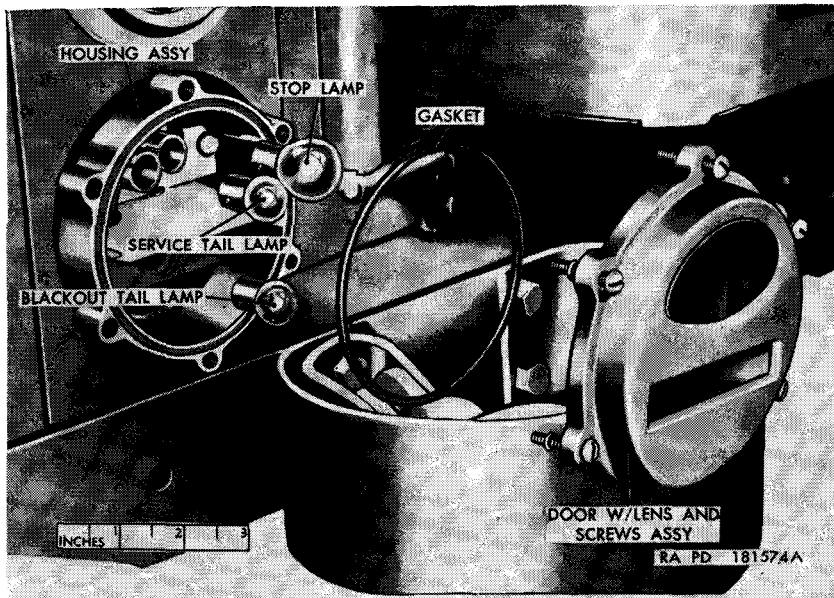

Figure 78. Service taillight and stoplight assembly—partially exploded view.
- (1) Position the mounting pad on the rear of the headlight housing with the mounting holes in the pad alined with those in the housing.
- (2) Position the housing with mounting pad in the radiator grille and secure with eight No. 10 x 1/2 lockwasher screws (fig. 78).
- (3) Slip the rubber grommet over the headlight cables, and insert cables and grommet in headlight housing.
- (4) Install the headlight sealed lamp-unit (a(2) above).
- (2) *Removal.* Remove two cables from the clip on the back of the housing assembly, pull the cables out until the cable connectors are exposed, and uncouple both connectors. Remove two bolts and lockwashers securing the blackout taillight and stoplight assembly and remove the assembly.
- (3) *Installation.* Insert the connectors through the hole in the blackout taillight and stoplight assembly mounting bracket, position the assembly on the bracket, and secure with two $\frac{3}{8}$ x $\frac{5}{8}$ bolts and lockwashers. Couple the connectors in accordance with the cable numbers.
- b. *Service Taillight and Stoplight Assembly (Left) (fig. 78).*
- (1) *Lamp replacement.* Refer to a(1) above.
- (2) *Removal.* Remove two lockwasher screws securing the taillight and trailer connection guard to the body left rear panel. These screws are located near the left rear corner of the body, one screw below the reflector and one above the reflector. Remove two lockwasher screws securing the guard to the body side panel. These screws